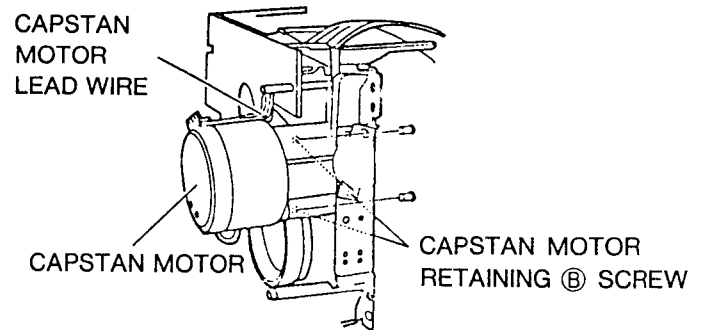

Fig. 2-6
- 1) Remove the CAPSTAN MOTOR RETAINING (B) SCREWS. (refer illustration Fig. 2-6)